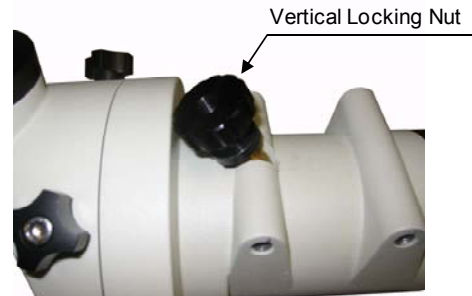

Figure 19
6. Thread Vertical Locking Nut onto the top brass latitude post of the mount (**Figure 19**).